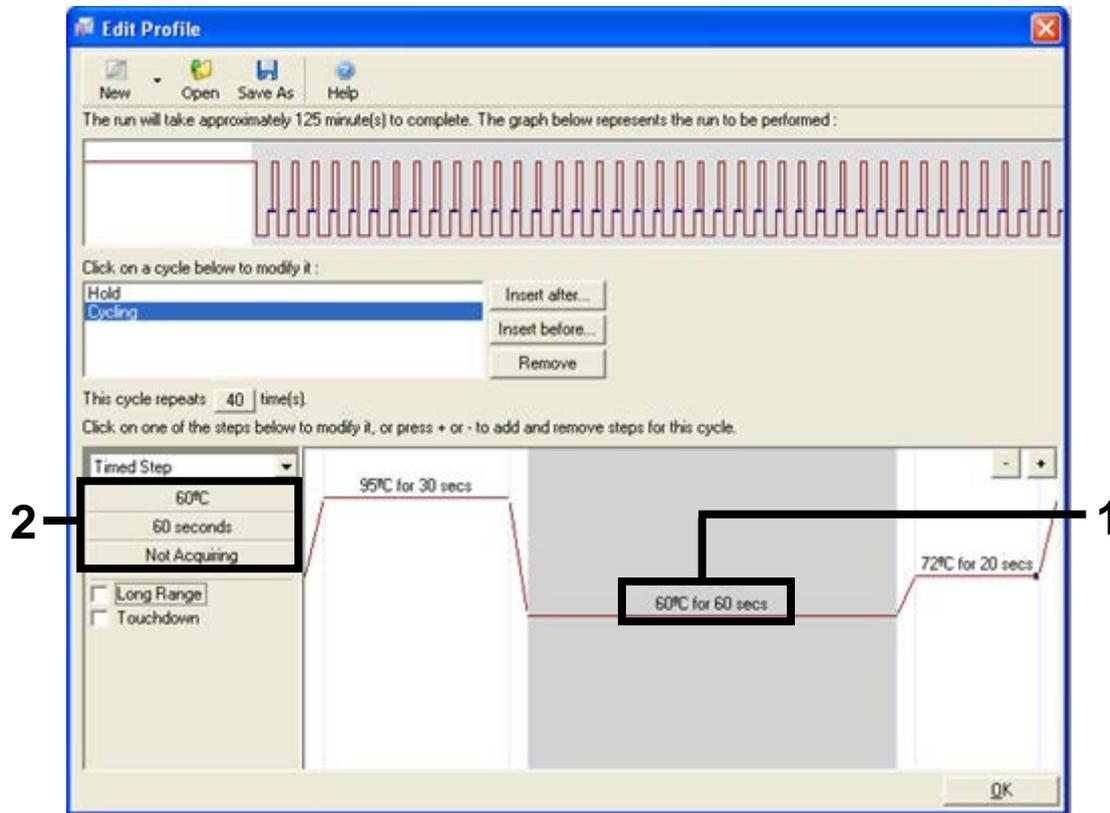

Figure 27. Cycling step at 60°C. (1 = Second step temperature and time setting, 2 = “Not Acquiring” button).
9. Highlight the second step and set to 60°C for 60 secs. Enable data acquisition during this step by selecting the “Not Acquiring” button (Figure 27).